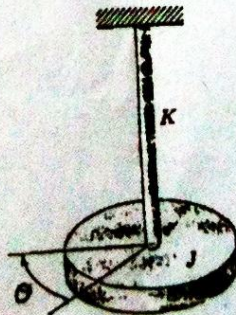

Fig. 5
- (b) (i) Refer Fig.5. The circular disc having mass moment of inertia ' $J$ ' is attached to the lower end of an elastic vertical shaft whose mass may be neglected. The torsional stiffness of the shaft is ' $k$ '. Determine the natural frequency of torsional vibrations of the given system. (4)